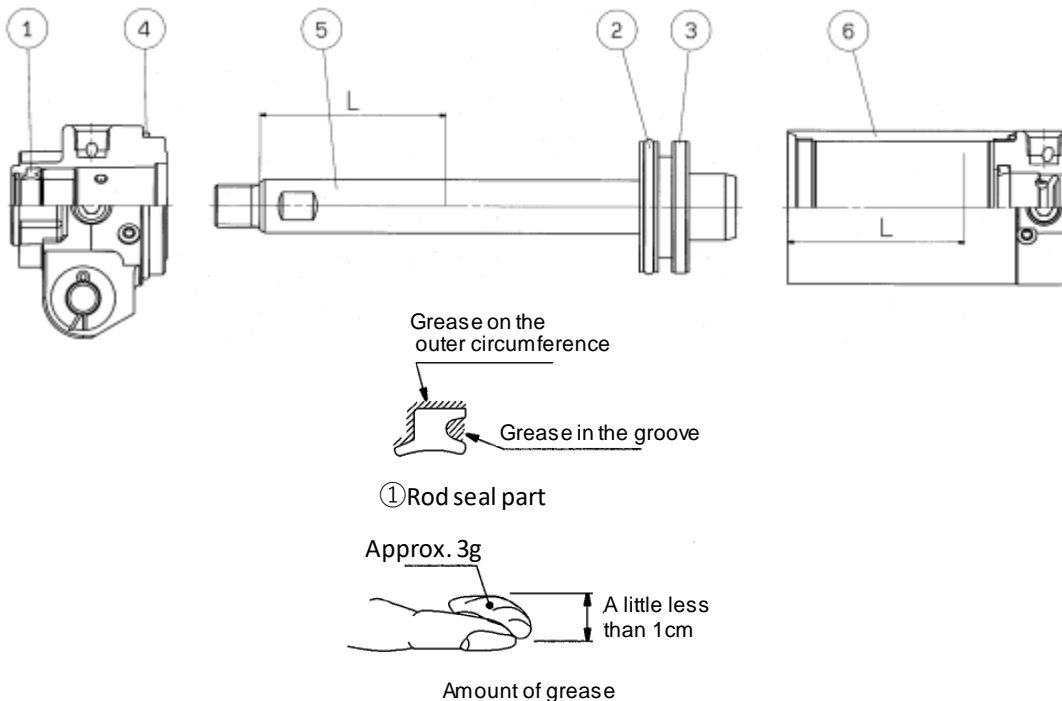

Fig. 5 Position for application of grease
Grease is applied to the locations shown in Fig.5. The amount of grease per cylinder of 100 stroke is shown in attached table 1. Roughly, one scoop with a forefinger is approximately 3g.
#### 1) Rod seal (Fig. 5, ① )
#### 2) Piston seal (Fig. 5, ② )
#### 3) Tube gasket (Fig. 5, ④ )